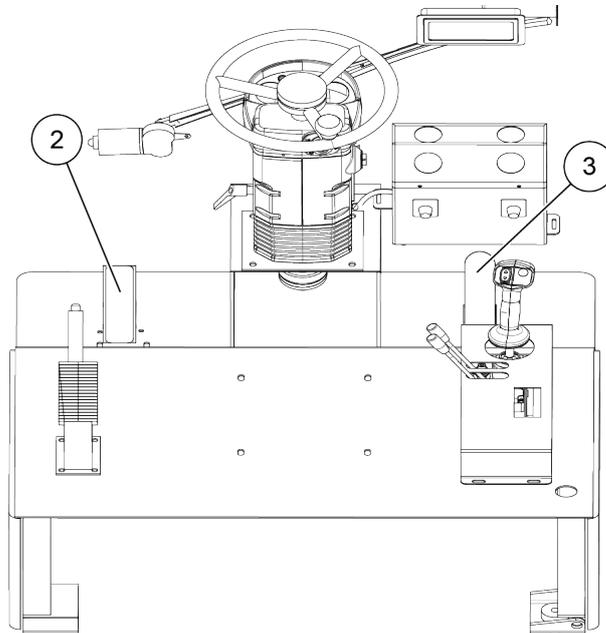

Figure 5-32 Cab
(1) Bucket
Step 2: Release the accelerator pedal (3), depress the brake pedal (2), and put the travel control switch (4) in the middle position, as shown in Figure 5-32 and 5-33;